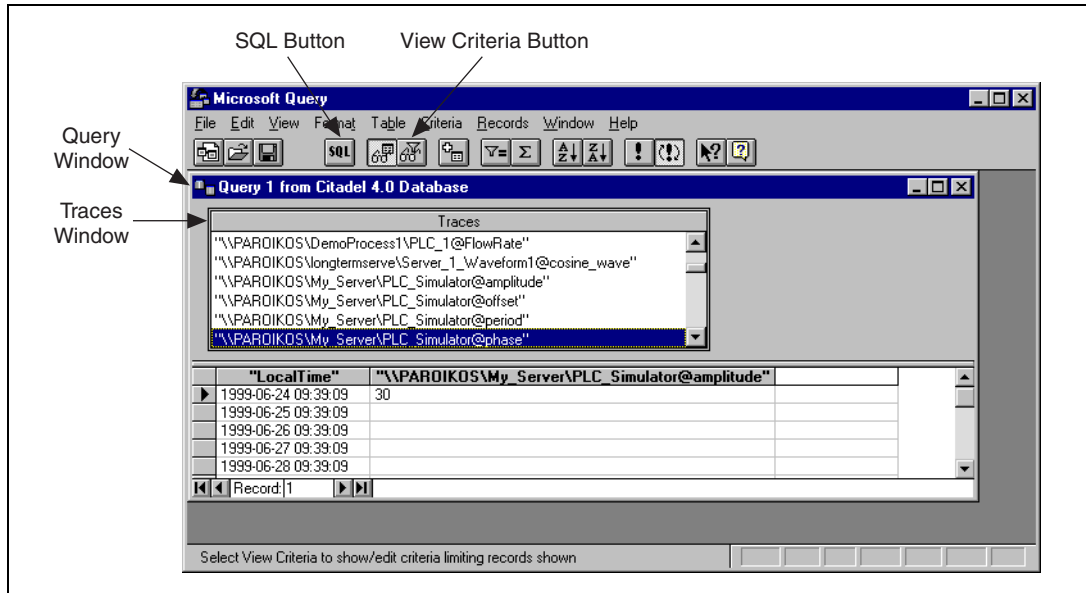

Figure A-1. The Query Window with Traces Table
- To view a trace, double-click or drag the field you want to view to a blank column in the data pane. In Figure A-1, `LocalTime` and `"\\PAROIKOS\\My_Server\\PLC_Simulator@amplitude"` have been dragged down.
- The data set in Figure A-1 was retrieved using no specific criteria, so the ODBC driver used the default. Although there are several ways to specify criteria, this example uses the criteria pane.